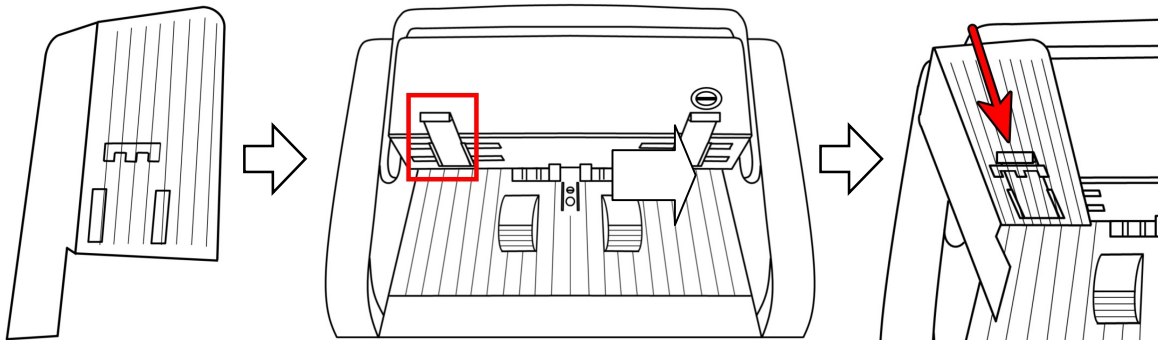

Figure 3
1) Take out the left note guider from the packaging box, align the guide rail on the back of the left note guider with the transparent clip of the machine, and load the heightening plate vertically down into the clip until the sound of "click" is heard, indicating that the left note guider is installed in place, as shown in Figure 3 below: